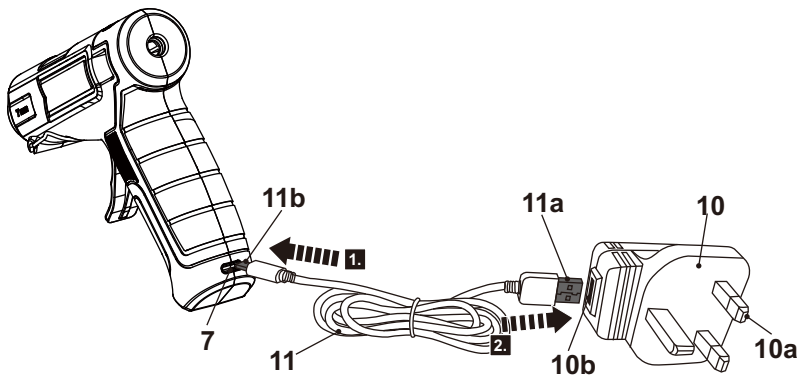

Fig. 4
1. To charge the built-in battery, align and insert the type-C plug (11b) of the charger cable (11) to the type-C port (7) of the product (Fig. 4, step 1), then align and insert the USB plug (11a) of the charger cable (11) to the USB port (10b) of the power adaptor (10) (Fig. 4, step 2).